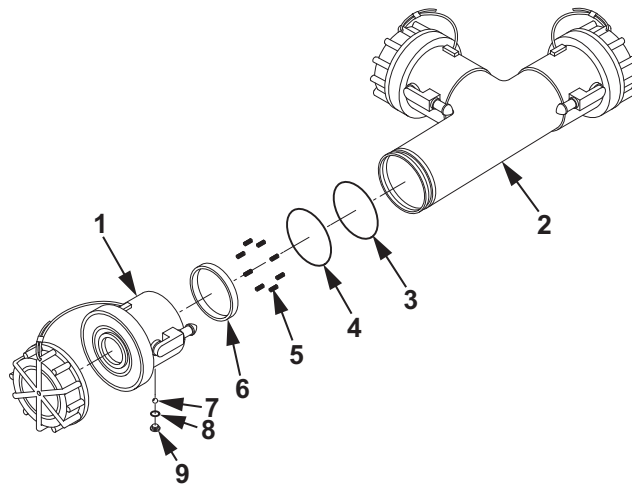

Figure 1. 2 In. Tee Disassembly.
Screw (Figure 1, Item 9) is a self-locking screw and is designed to be reused up to 15 times before replacement. If a torque wrench is not used to remove screw (Figure 1, Item 9), then screw (Figure 1, Item 9) should be replaced.
1. Using a torque wrench and screwdriver bit, check running torque on screw (Figure 1, Item 9). If running torque is less than 3.5 in. lb (0.45 N•m), discard screw (Figure 1, Item 9).
Keep inlet hole in the up position when removing screw (Figure 1, Item 9) to prevent loss of ball bearings (Figure 1, Item 7).
2. Remove screw (Figure 1, Item 9) from coupling (Figure 1, Item 1).
3. Remove O-ring (Figure 1, Item 8) from screw (Figure 1, Item 9).
4. Discard O-ring (Figure 1, Item 8).
Ensure all 41 ball bearings (Figure 1, Item 7) are accounted for during disassembly.
5. Hold coupling (Figure 1, Item 1) with screw hole toward cleaning cloth and rotate coupling (Figure 1, Item 1) to allow ball bearings (Figure 1, Item 7) to fall onto the cleaning cloth.
6. Remove coupling (Figure 1, Item 1) from tee assembly (Figure 1, Item 2).
7. Remove seal (Figure 1, Item 6) from tee assembly (Figure 1, Item 2). Discard seal (Figure 1, Item 5).
8. Remove eight springs (Figure 1, Item 5) from tee assembly (Figure 1, Item 2).
9. Remove O-ring (Figure 1, Item 4) from inside groove of tee assembly (Figure 1, Item 2).
10. Discard O-ring (Figure 1, Item 4).
11. Remove O-ring (Figure 1, Item 3) from outer groove of tee assembly (Figure 1, Item 2).
12. Discard O-ring (Figure 1, Item 3).